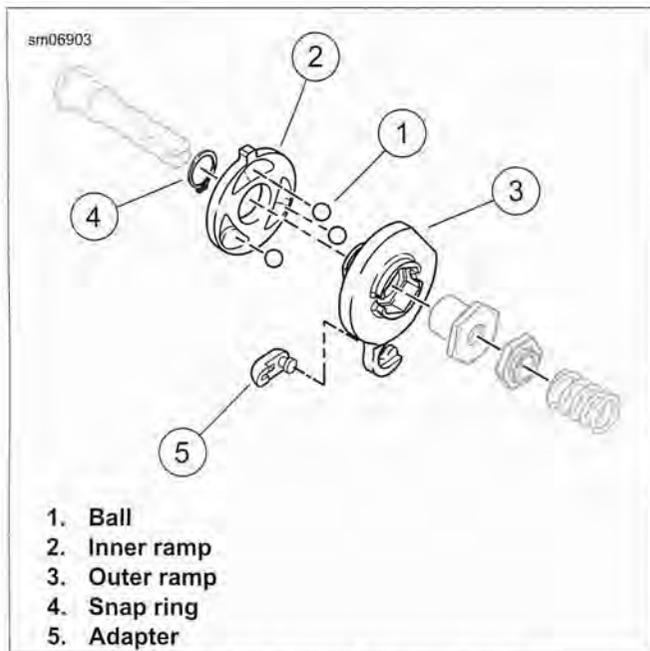

Figure 5-6. Clutch Release Ramp
2. See Figure 5-6. Inspect three balls (1) and ball socket surfaces of inner ramp (2) and outer ramp (3) for wear, pitting, surface breakdown and other damage. Replace parts as necessary.
- d. Install **new** snap ring (4) in groove of outer ramp hub.
- a. Fit adapter (5) over clutch cable end with the rounded side inboard, the ramp connector button outboard.